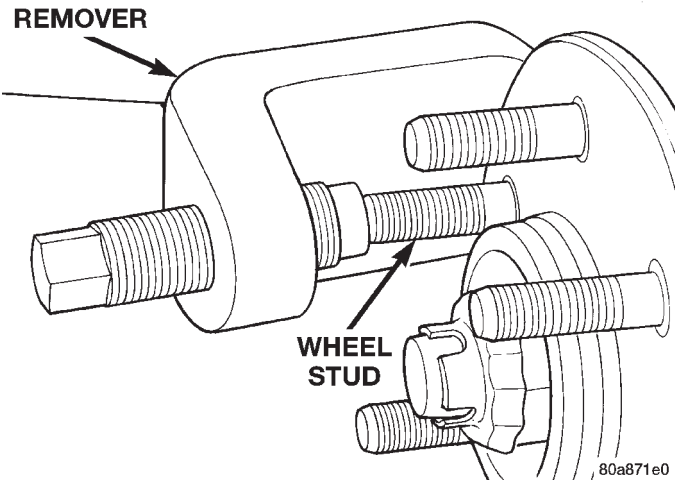

Fig. 9 Wheel Stud Removal
- (1) Raise and support vehicle.
- (2) Remove wheel and tire assembly.
- (3) Remove brake caliper and rotor, refer to Group 5 Brakes for procedure.
- (4) Remove stud from hub with Remover C-4150A (Fig. 9).